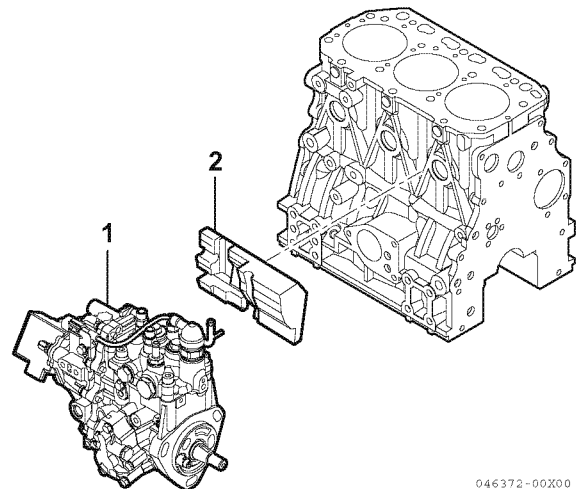

Figure 7-29
11. If equipped, verify the fuel injection pump insulator **(Figure 7-29, (2))** is not damaged. Reinstall the insulator and intake manifold if previously removed.